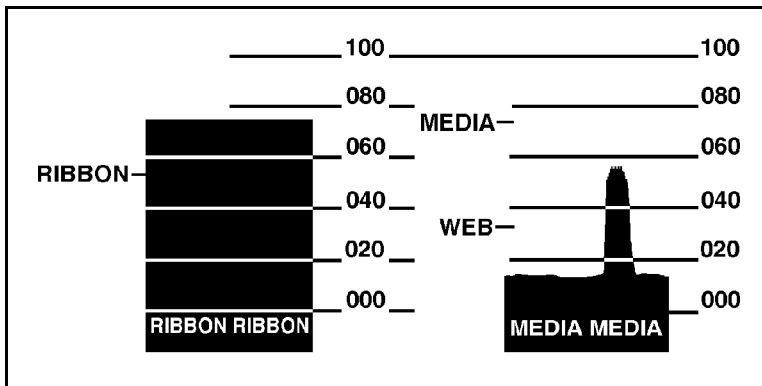

Figure 26
11. Press the MODE key to print a media and sensor profile and save the new values (see Figure 26).